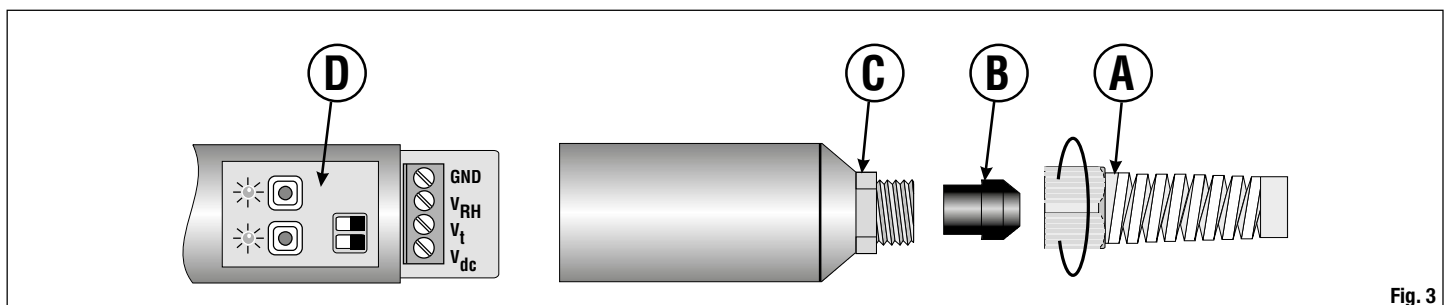

Fig. 3
Follow these procedures to access the transmitter terminal board (see fig.3): Unscrew grommet "A", take off rubber bulb "B" and unscrew bottom "C". Insert the cable through A, B and C elements and connect it to the terminal board. Hold the cable firmly while screwing grommet "A" to avoid twisting.
1. To access the panel board, unscrew grommet "A" (see fig. 3) and hold the cable firmly to avoid twisting. Take off the rubber bulb and unscrew the bottom of the instrument.
- To access the panel board, unscrew grommet "A" (see figure 3) and hold the cable firmly to avoid twisting. Take the rubber bulb off and unscrew the bottom of the instrument.